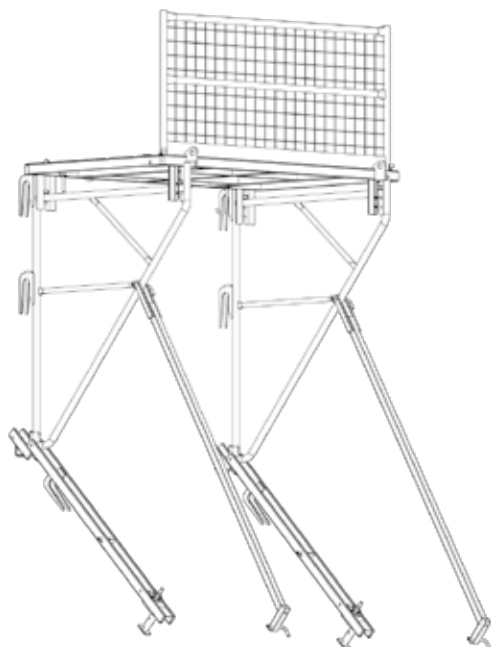
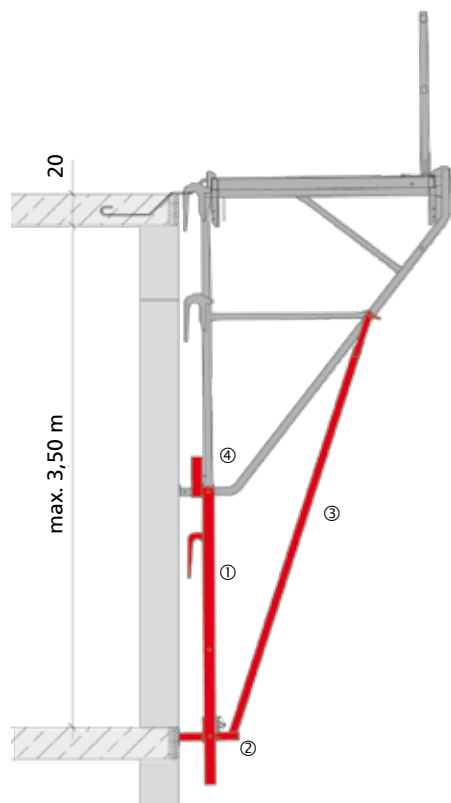

Fig. 40.1
Fig. 40.3
The bracket extension LAB and the pressure rod LAB can be used to vertically bridge large wall openings (Fig. 40.1 and 40.2). The bracket extension ① is attached with pin 16/120 at the foot of the bracket ④. The pressure rod ③ is attached with pin 16/120 to the bracket and the bracket extension. Before attaching the pressure rod, the spacer ② should be adjusted to the required height (Fig. 40.3 and 40.4). The adjustment range is 70 cm.